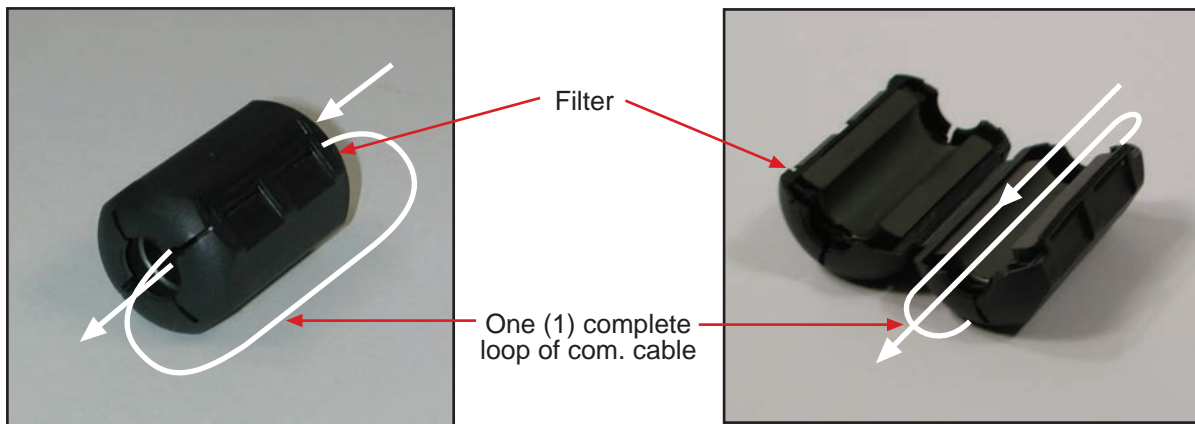

Figure 8.
15. Locate the common mode communication filter. Open the shell and insert (1) complete loop. Close and snap the shell shut. See Figure 8. The filter is to be located as close to the Interface Unit as possible.